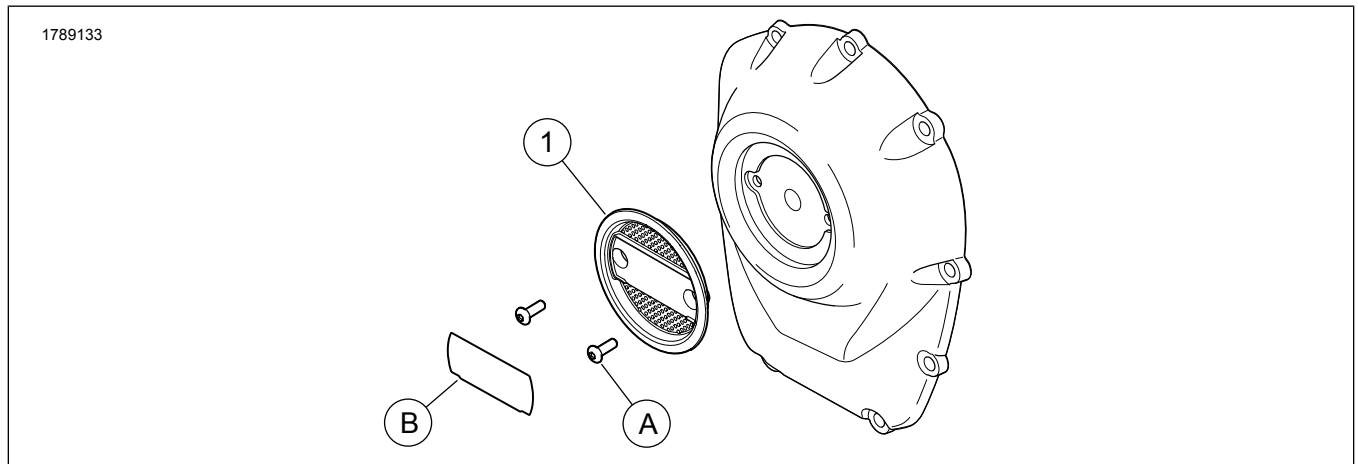

Figure 1. Kit Contents: Screamin' Eagle Timer Cover - Milwaukee Eight
1. Figure 1 Remove Original Equipment (OE) screws (A) and timer cover.
2. Install **new** timer cover (1).
3. Install OE screws (A). Tighten.
2. Figure 1 Peel liner from adhesive backing of timer cover insert (B).
3. Position insert over timer cover (1) without touching adhesive on timer cover insert surface.